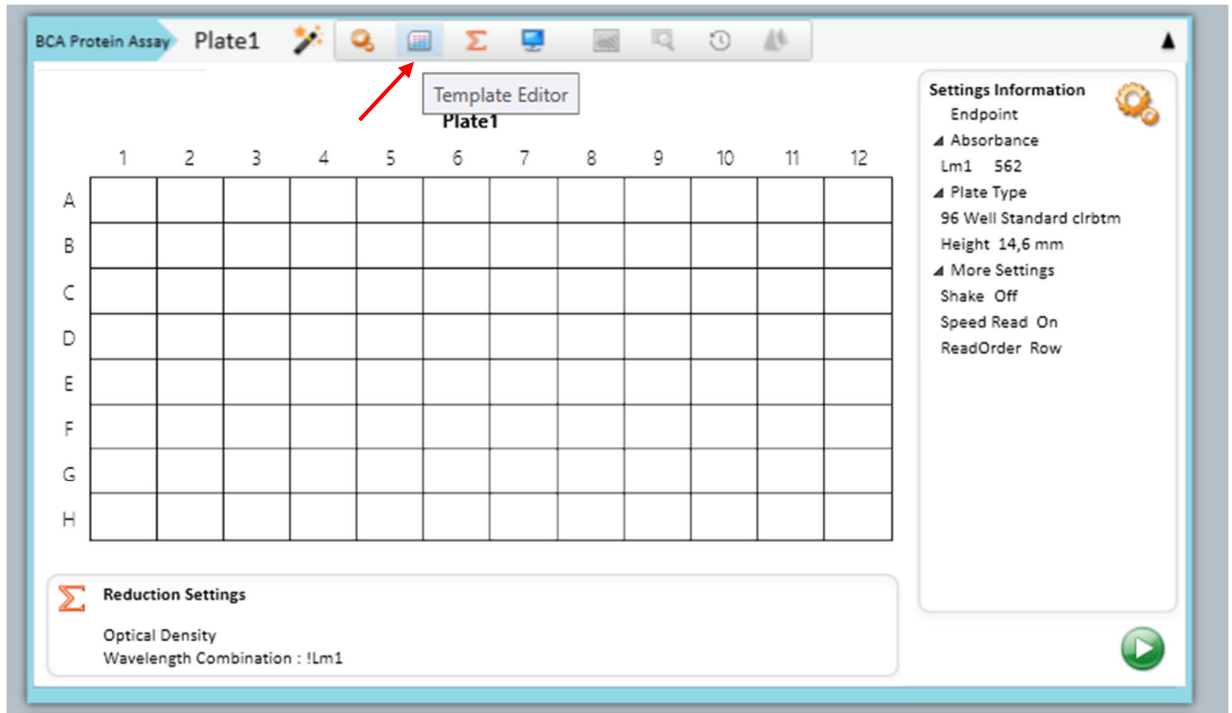

Figure 9: Default screen, start of the template editor
- before starting a measurement, define the plate layout (wells with blank, standards, samples) by pressing the “Template Editor” button (see arrow in figure 9)